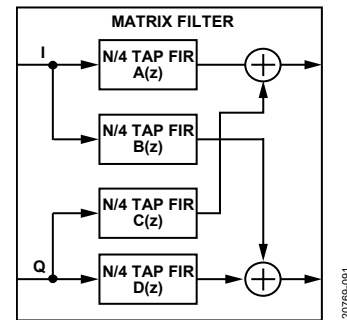

Figure 102. Full Matrix Filter with N/4-Taps per FIR
Full complex filter using four real N/4-tap filters for the I/Q channels (see Figure 102).
Matrix Mode	Two 48-tap matrix filter, one for each I/Q pair, 48 taps for each filter (A, B, C, and D), as shown in Figure 102.
Matrix Mode	Single 48-tap matrix filter, 48 taps for each filter (A, B, C, and D), as shown in Figure 102.
- Channel-to-channel crosstalk correction mode: the PFILT views the converters as pairs that can be either two real signals or a complex I/Q pair. If the channels are separate real signals, the matrix filter shown in Figure 102 can be used for crosstalk cancelation. In the matrix filter configuration, the filters $B(z)$, and $C(z)$ can be used to model the coupling transfer function between the channels and subtract an estimate of the cross talk from the other channel. The $A(z)$ and $D(z)$ filters are programmed with a single nonzero coefficient of decimal 32767 (1 LSB less than full scale) at the appropriate coefficient to compensate for group delay of the cross-term filter. Typically, this coefficient is placed on Tap 0 of the $A(z)$, and $D(z)$ filters.